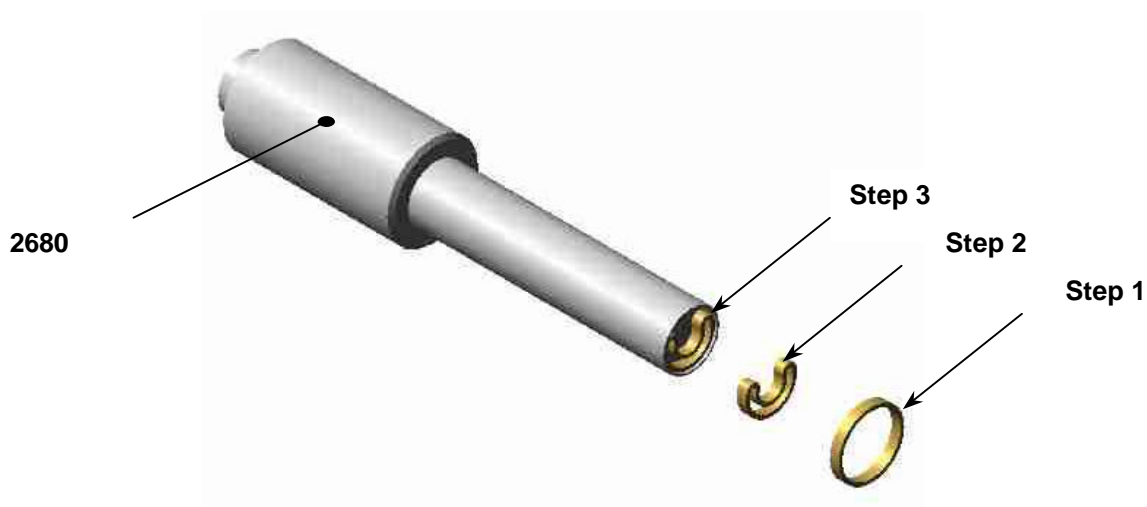

Figure 4
- Squeeze the sleeve into a “bean” shape, then insert it in the sleeve insertion tool P/N 2680 (Figure 4):